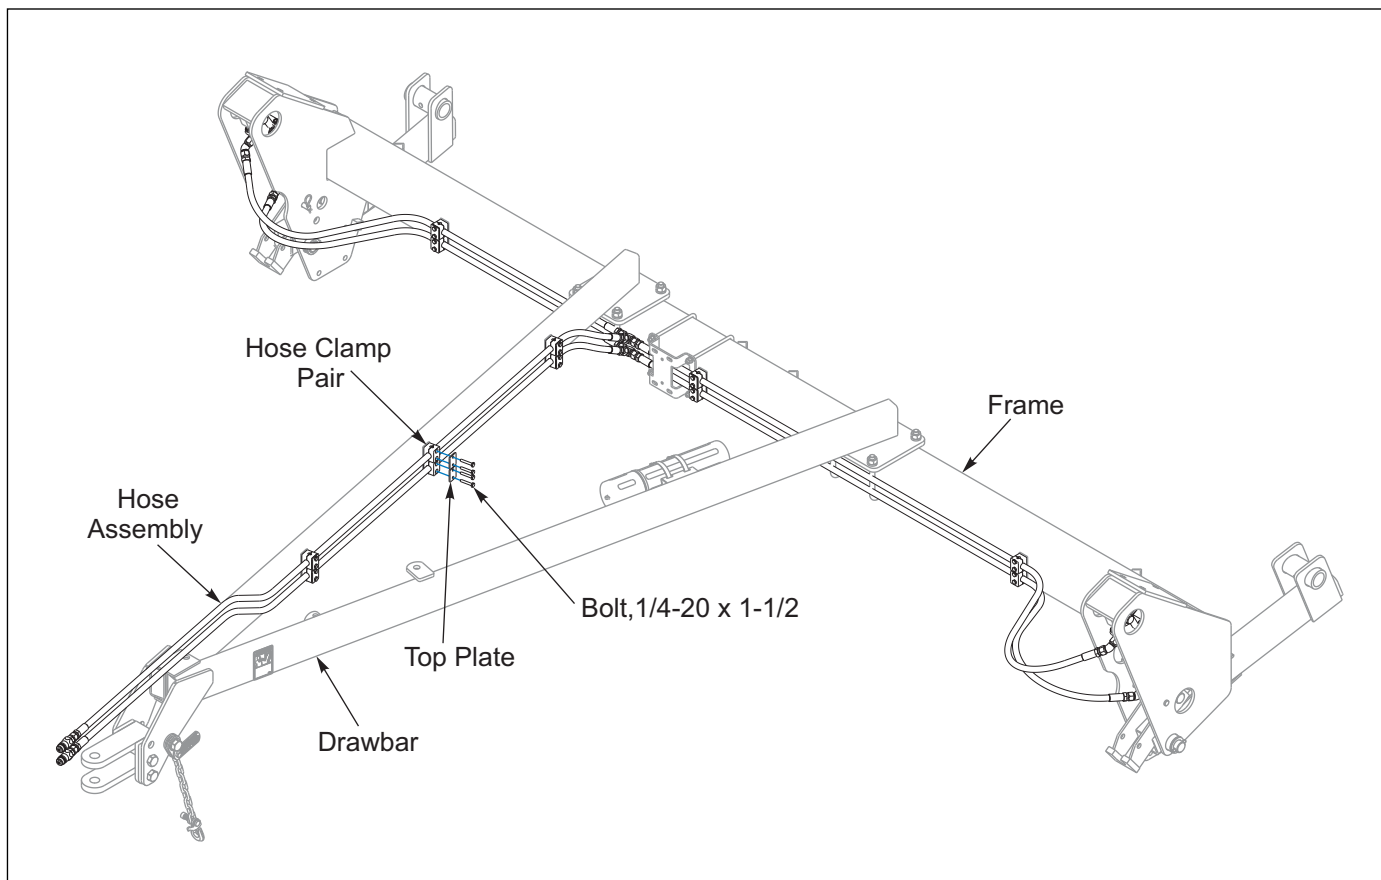

Figure 2-11: Drawbar Hydraulic Hoses
2. Route the Drawbar Hydraulic Hoses along Drawbar toward the Tractor. Secure Hoses to Drawbar with Hose Clamp Pairs, Top Plate and 1/4-20 x 1-1/2 Bolt. See Figure 2-11.